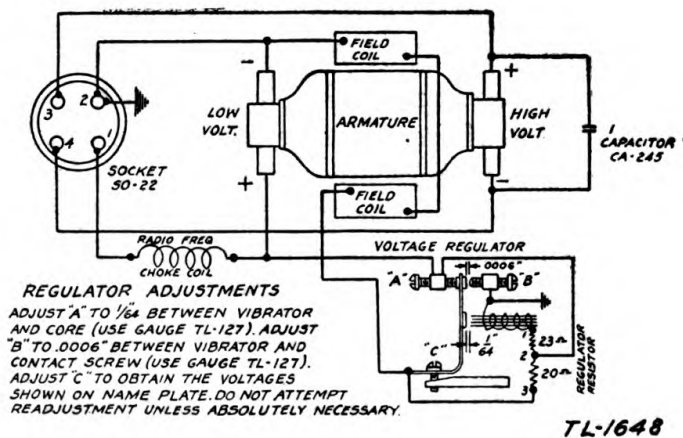

FIGURE 30.—Generator GN-37, circuit diagram.
**17. Generator GN-37** (fig. 30).—The generator is shunt wound, and the armature has two windings to provide both filament and plate power for transmitting. The voltage, both for filaments and plates, is automatically controlled by the regulator in the generator. The field exciting current is supplied from the low voltage windings through the voltage regulator, which functions as follows: When the voltage output is low, current is furnished the field on the following path: positive brush (+) to screw A, then to screw C through the field to the negative brush (−), which is grounded. Current can also flow from A to terminal 2 on the regulator resistance through 23 ohms, through the regulator relay windings to B, to ground. As the
c. The gage TL-127 is provided with the generator in order to measure the regulator clearances for proper adjustment. Such adjustment should be made only when absolutely necessary and then only by qualified depot repair personnel in the following manner (fig. 30): Loosen both small locking screws which lock screws A and B. Back off screw B so that the  $\frac{1}{64}$ -inch end of the gage may be inserted between the core and the vibrator. Screw up on screw A until the vibrator to core clearance is adjusted to  $\frac{1}{64}$  inch. Leave screw A in place and insert the 0.0006-inch end of the gage between the armature contact and screw B; then screw up B for an easy slip fit. Lock screws A and B with their respective locking screws and then proceed to adjust the voltages by screw C so as to obtain 8 to 8.25 volts and 485 to 515 volts while furnishing power to the set. Turning screw C clockwise raises the generated voltages.